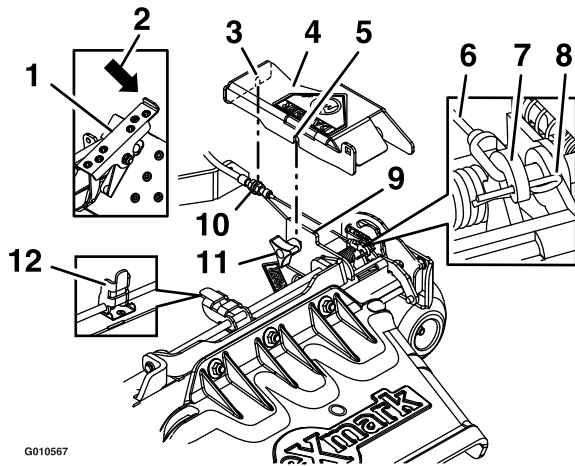

**Figure 7**
12. Insert the chute pivot rod through the first tab on the deck, gate linkage assembly, and discharge deflector (see Figure 7). Install the link pivot bracket onto the link pivot channel, located on the gate linkage assembly. Route the chute pivot rod through the link pivot bracket, the tabs on the deck, gate linkage assembly, and discharge deflector and install the hairpin. Orient the hairpin as shown in Figure 7.